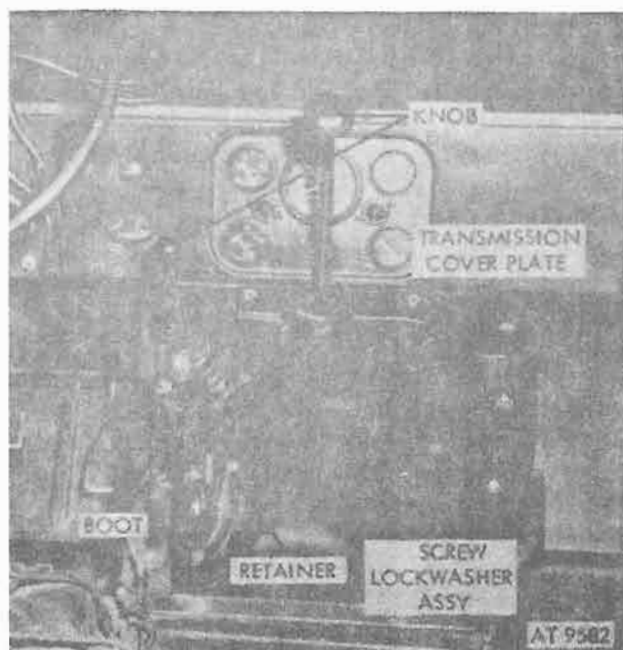

Figure 4-13. Transmission cover plate.
(5) Remove gearshift knobs. Remove six screws and lockwashers securing boot retainer to transmission cover plate and remove boots and boot retainer. Remove twelve screws and lockwashers securing transmission cover plate to floor panel (fig. 4-13). Remove transmission plate.